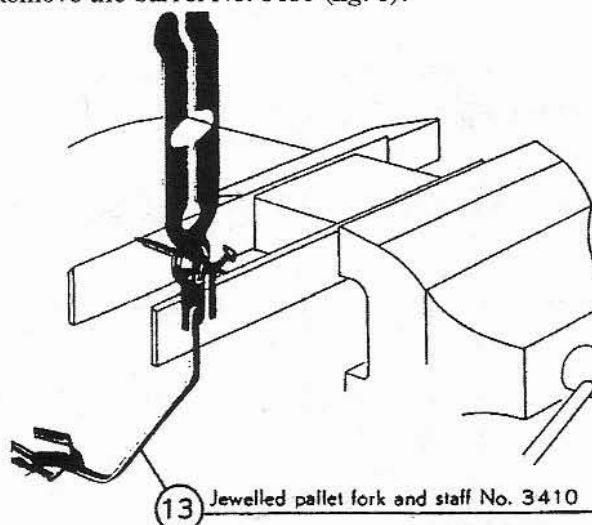

Fig. 5
13. Check the poise of the jeweled pallet fork and staff No. 3410. It should be slightly heavy on the fork side: when it stops it should be vertical (very important, see fig. 5).
- 45 Check the action of the lever (if a correction is required, re-check its poise). (See para. No. 13, and fig. 5.)